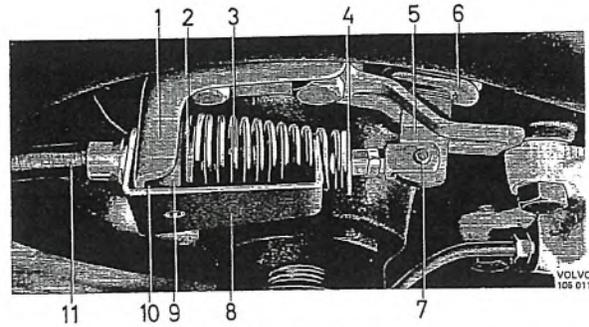

Fig. 5-83. Fitting spring tool
3. Check that the brake pads are not stuck to the brake disc. To prevent the lever when adjusting from influencing the shoes and thus give misleading results, the spring tension acting on the lever should be reduced. This can be done by fitting holder 2742 (Fig. 5-83) or by disconnecting the cable from the lever.
5. Place holder 2742 so that the return spring is held in position according to fig. 5-83. Bend up the lock and remove the lock pin so that the cable releases from the lever.
2. Fit on new rubber cable guides for the cable suspension. Place the cable in position in the rear attachment and tighten the nut. Fit the washers and return spring. Compress the spring with the help of the holder tool, see Fig. 5-83. Oil the lock pin and fit it together with the cable on the lever. Fit the attachment and rubber cable guide on the frame member.